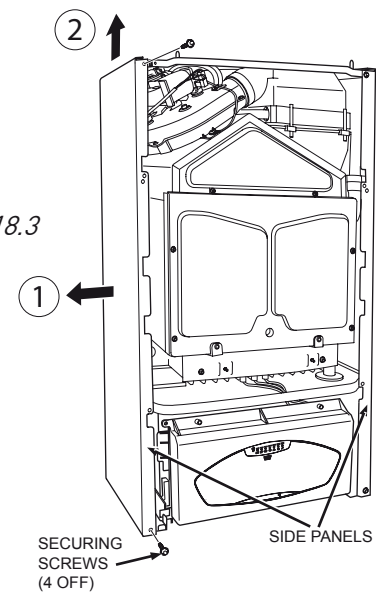

Figure 18.3
- Release the side panels by removing the screws on the upper and lower sides (*Figure 18.3*). Remove the panels by swinging them out and lifting them up.